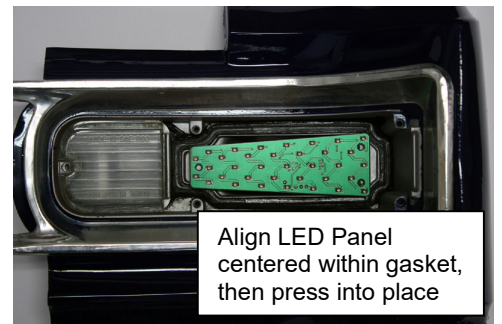

Figure 3
- 5.4. Remove the cover tape from the mounting foam on back of panel. Align the LED panel within the gasket inside the housing. (See Figure 3) When LED panel is centered properly, press into place.